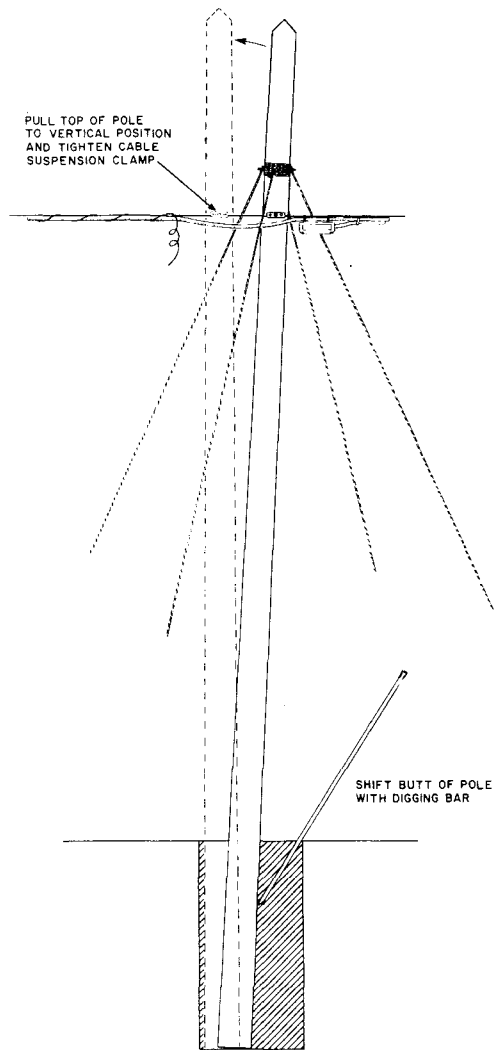

Fig. 10—Moving Gin Pole
- (3) Use the digging bars or rope blocks to shift the butt of the pole away from its original location as shown in Fig. 10.
- (4) Pull the top of the pole to a vertical position and adjust the rope guys to equal tension. Snub the lower portion of the pole with rope slings to digging bars or other substantial anchorage.
- (5) If conditions are such that it is desirable to remove the in-line rope guys before placing the new pole they may be removed after tightening the cable suspension clamp.